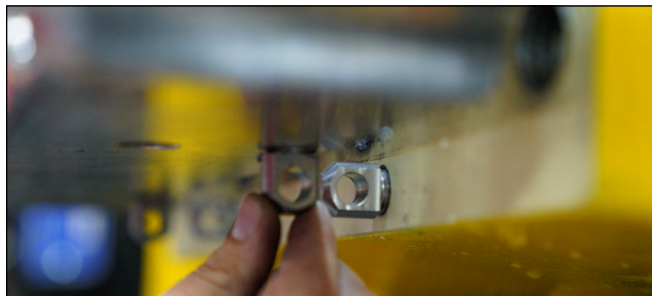

Figure 27: Screw in Manifold Trunnions.
- c. Screw both manifold trunnions (Figure 27) in completely and then back them out approximately 2-1/2 turns. Slide the manifold back against the powerframe (or adapter plate).